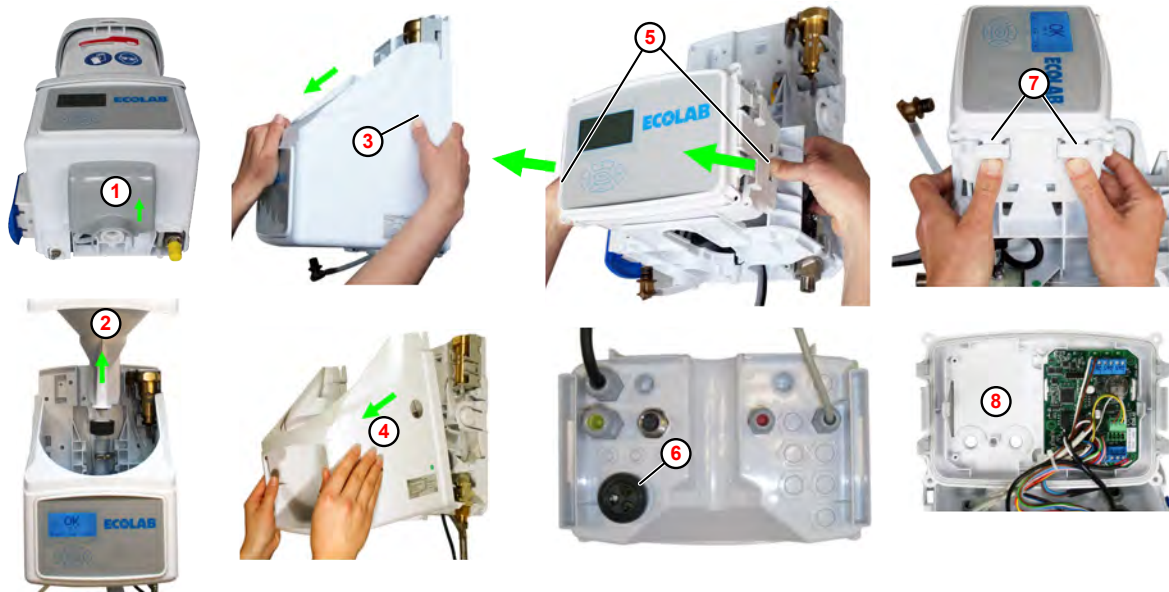

Fig. 6: Removal of the electronic unit
2. Push the funnel lock (Fig. 6 , ①) upwards and remove it.